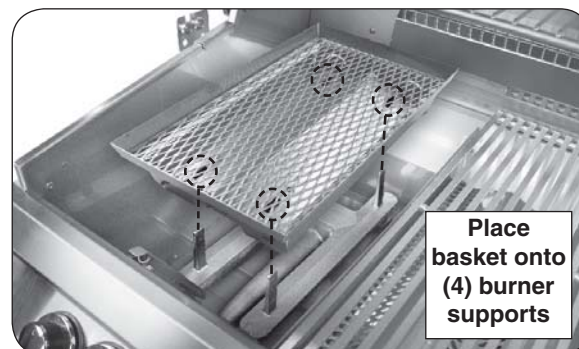
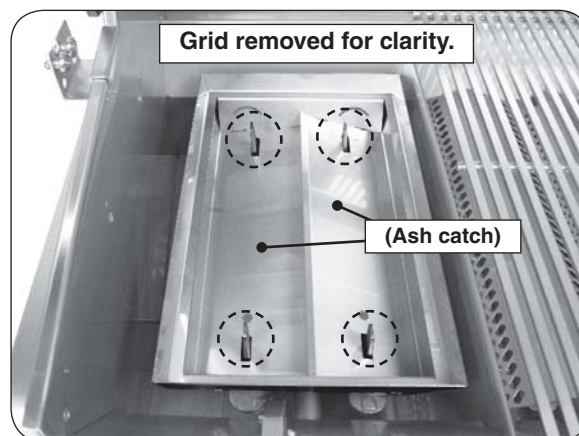

Fig. 31-3 Place basket onto burner
Fig. 31-4 Basket placement detail
3. Place basket onto burner in place of flavor grid. Align basket cutouts over burner supports (see Fig. 31-3 and Fig. 31-4).